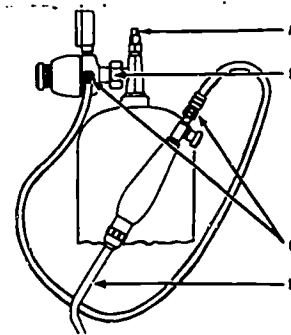

Figure 5.
1. Turn the pressure adjusting screw of the regulator assembly (E, Figure 5) counterclockwise, all the way out, to place the diaphragm-type valve in a closed position.
2. Connect regulator (E), with hose assembly (C) and tip (D) attached, to the tank. Tighten the nut securely with a wrench.
3. Open the tank valve (A) 1/4 turn. Use a tank key and leave it on the tank.